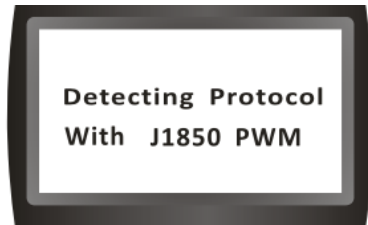

Figure 20
7. Press the  button once, the Scan tool will automatically starts to Link up to the vehicle's computer and search which type of communication protocol it is using. Once the Scan tool identifies the computer's communications protocol, a communication Link is established. The protocol type will be shown on the LCD display: (Figure 20)